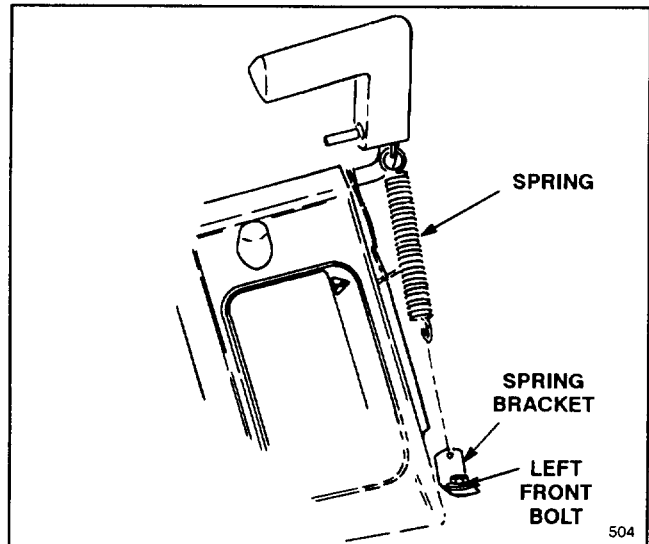
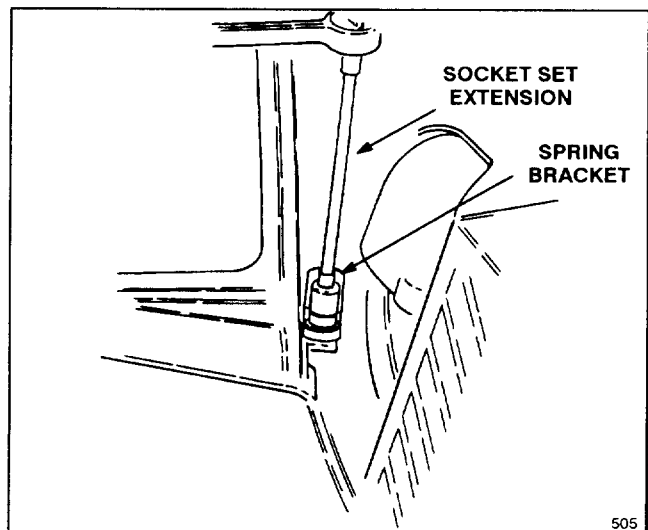

Figure 3
Figure 4
5. Secure spring bracket and discharge tunnel to deck with left front bolt (Fig. 3). A socket set extension may be necessary (Fig. 4).
6. Hook end of spring through small hole on spring bracket (Fig. 3).